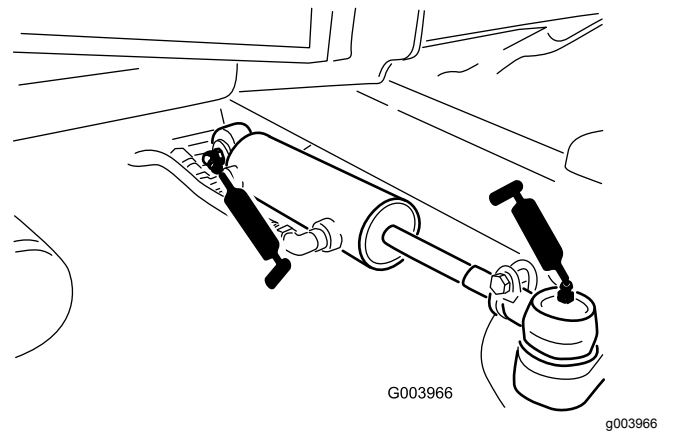

Figure 47
- Steering-cylinder ball joints (2) (Figure 47)